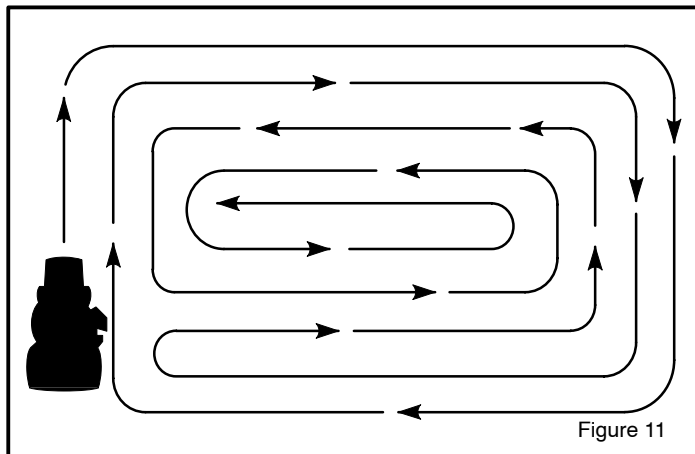

Figure 11
8. When you mow large areas, start by turning to the right so that the cut grass will discharge away from shrubs, fences, driveways, etc. After one or two rounds, mow in the opposite direction making left turns until finished (Figure 11).